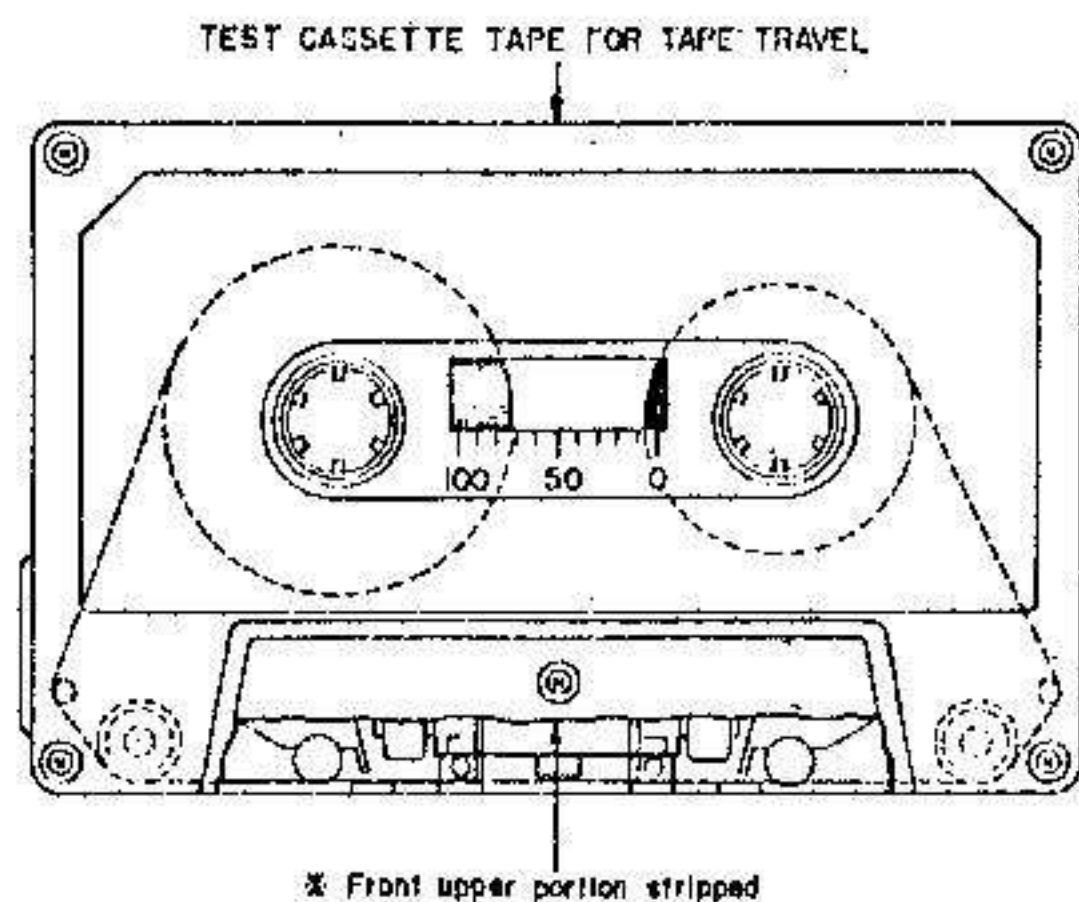
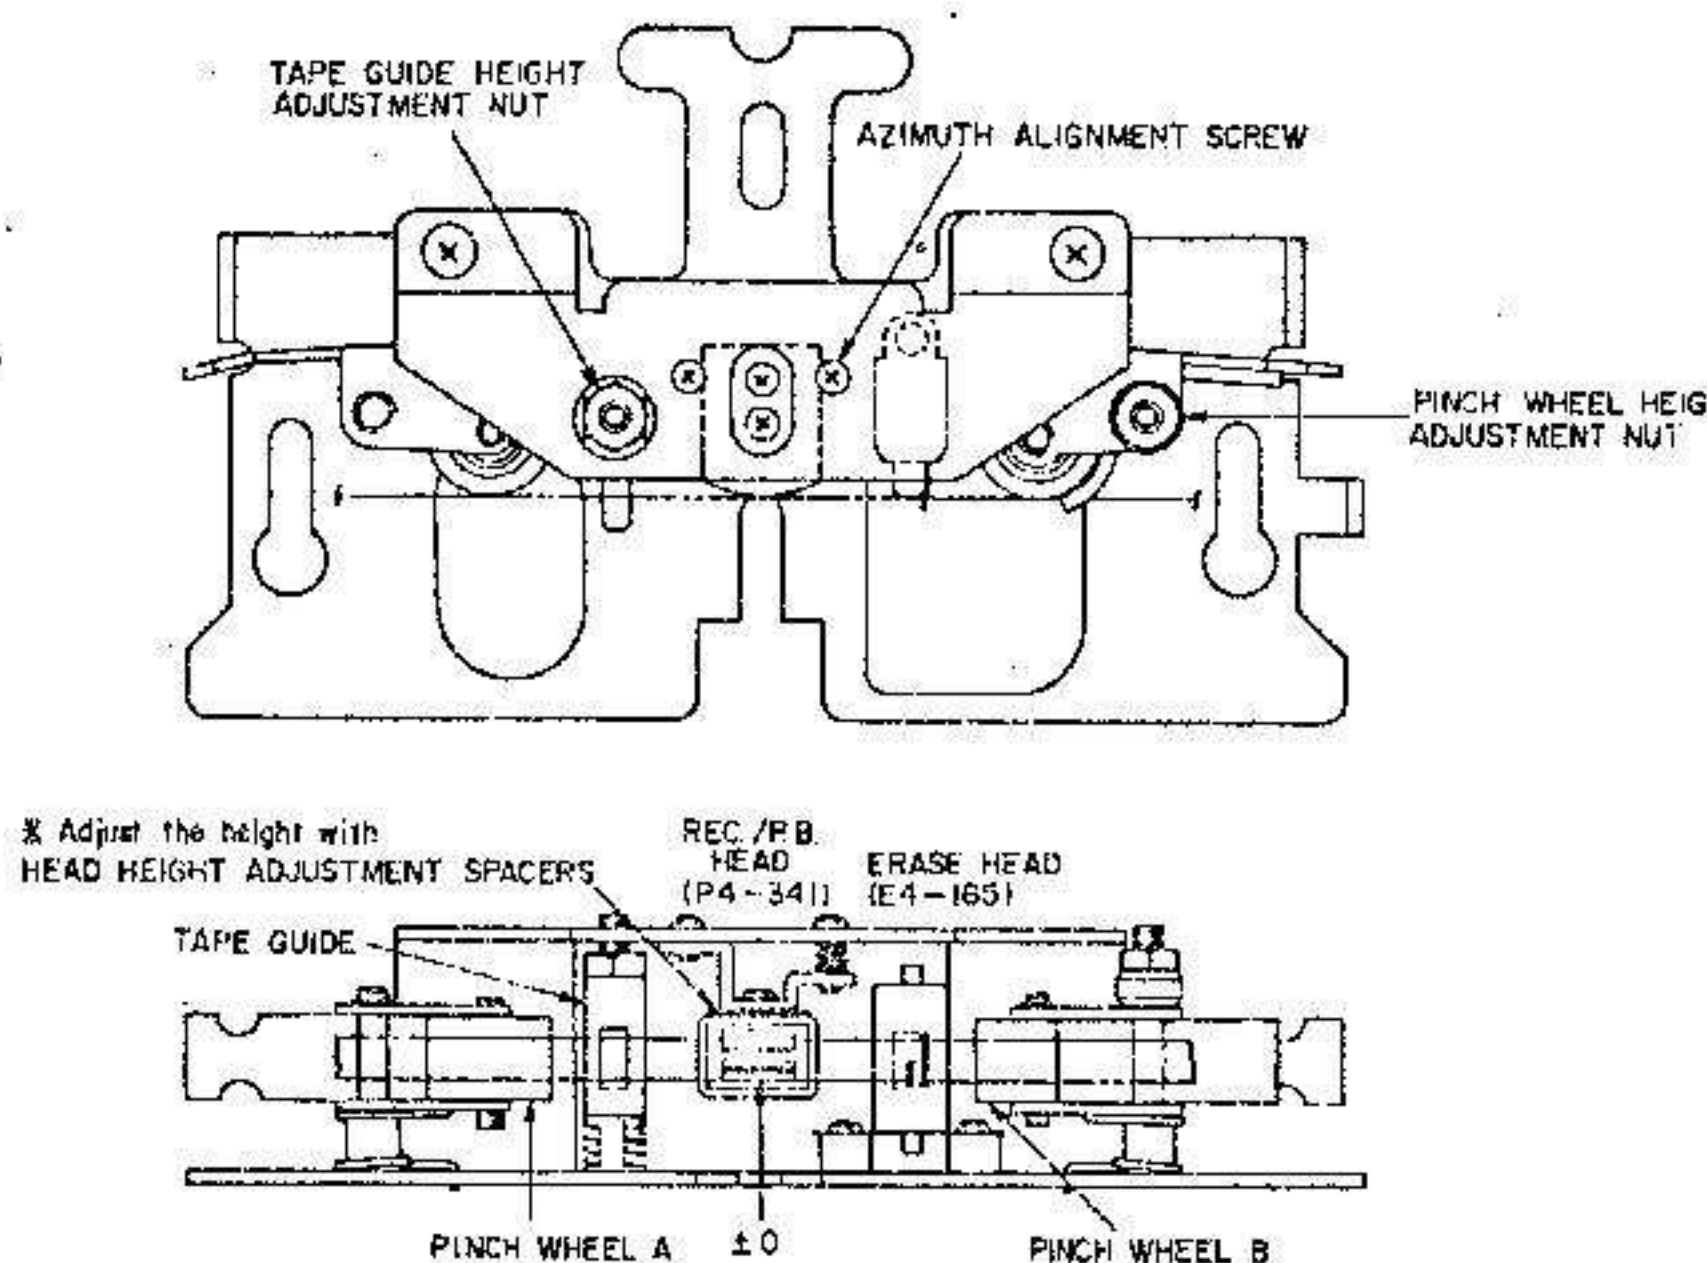

Fig. 7
Fig. 8
1. TAPE TRAVEL ADJUSTMENT (Refer to Figs. 7 and 8)
As shown in Fig. 7, use a cassette tape from which the upper part of the cassette case has been stripped off for easy visibility of the head area and, using the erase head as standard for height, adjust tape guide height adjustment nut and pinch wheel B height adjustment nut for proper tape guide and pinch wheel B height and so that the tape runs smoothly and does not twist at the tape guide part of Pinch wheel B. (Fig. 8)
2. RECORDING/PLAYBACK HEAD HEIGHT ADJUSTMENT (Refer to Fig. 8)
3. RECORDING/PLAYBACK HEAD AZIMUTH ADJUSTMENT (Refer to Fig. 8)